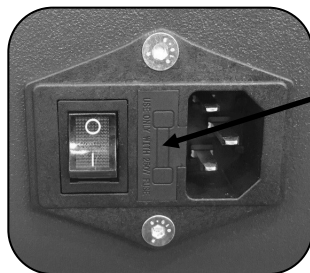

Fig.1
- Connect the supplied cable to the machine's power socket Fig.1.